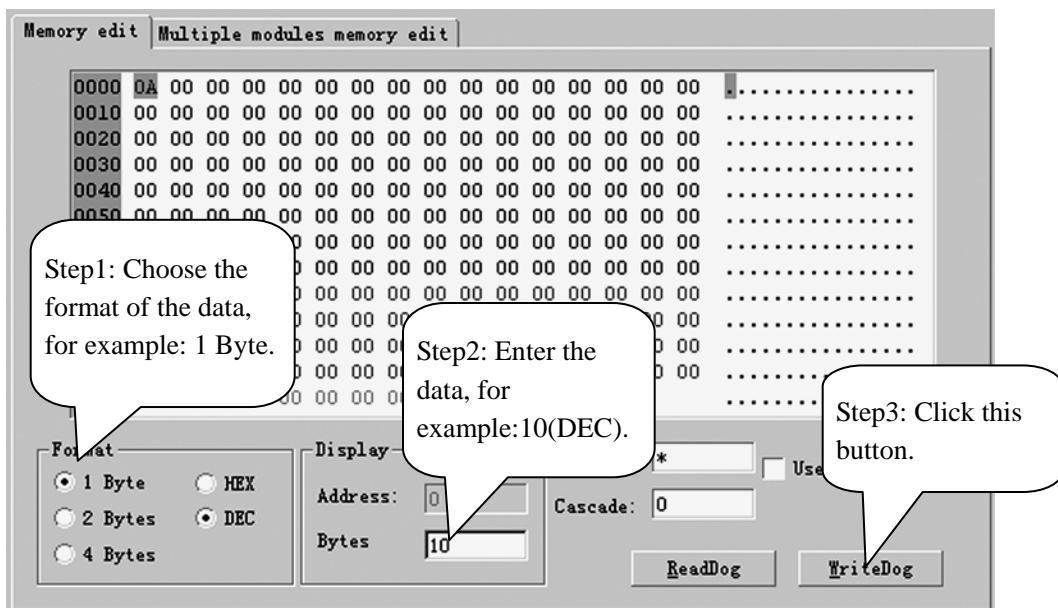

Figure 3-1
1. Follow the Step1, 2, 3 described on the Figure 3-1 to write data into the Hardware Dog.